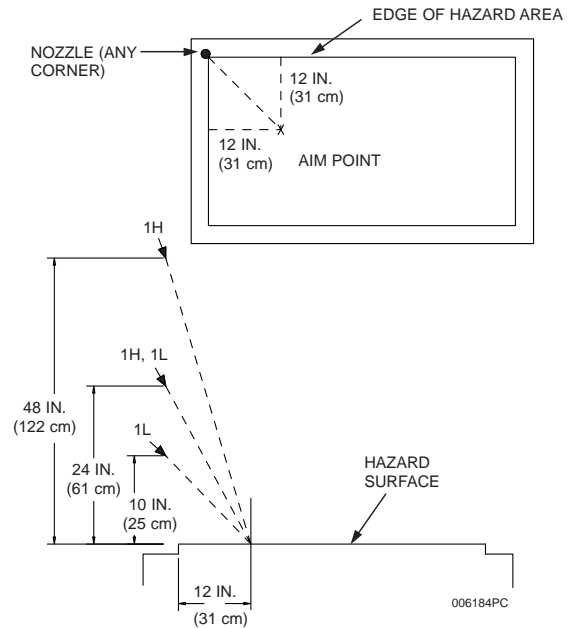

Figure 3-8.
The 1H nozzle, Part No. 551029, is used for high proximity griddle protection. This nozzle is a one (1) flow nozzle. The nozzle must be located **above any corner** of the hazard surface, 24 in. to 48 in. (61 to 122 cm) above the cooking surface of the appliance and aimed at a point 12 in. (31 cm) over and 12 in. (31 cm) in from the corner below the nozzle. See **Figure 3-8**.
The 1L nozzle, Part No. 551026, is used for low proximity griddle protection. This nozzle is a one (1) flow nozzle. The nozzle must be located **above any corner** of the hazard surface, 10 in. to 24 in. (25 to 61 cm) above the cooking surface of the appliance and aimed at a point 12 in. (31 cm) over and 12 in. (31 cm) in from the corner below the nozzle. See **Figure 3-8**.